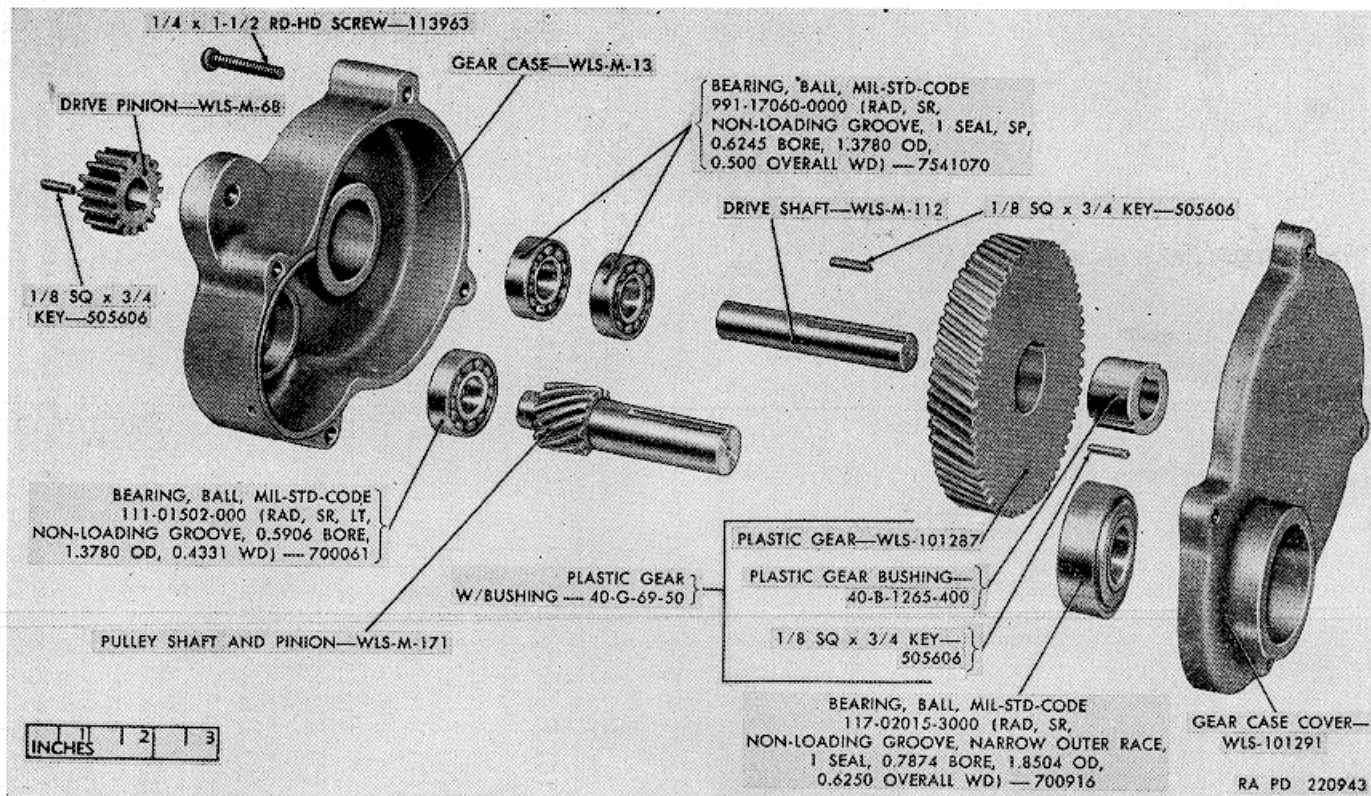
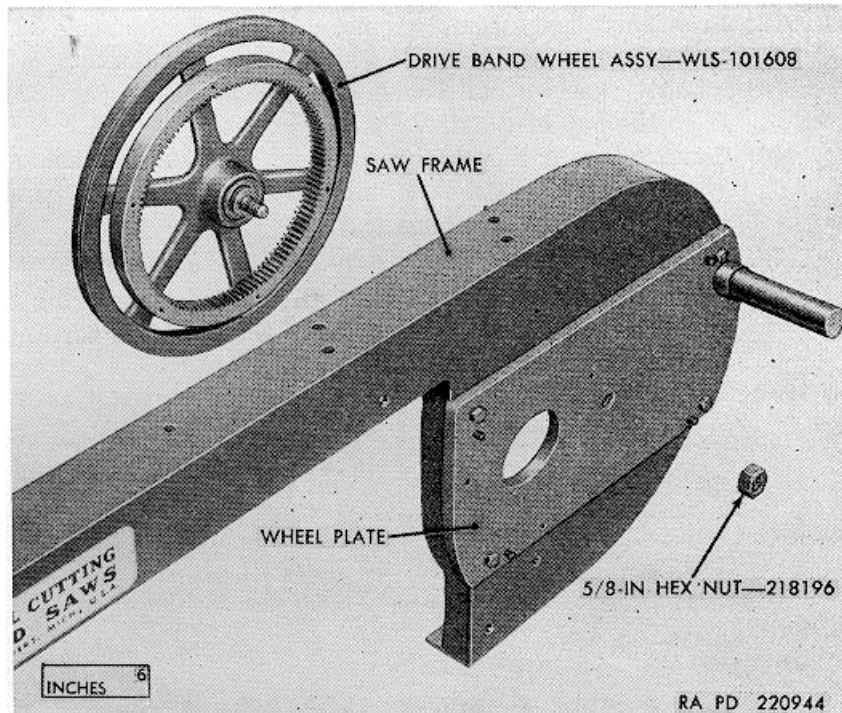

Figure 30. Gear case assembly-exploded view.
Figure 31. Drive band wheel assembly removed from saw frame.
- (4) With a gear puller, remove the drive pinion (fig. 30) and
- (5) Remove the four roundhead screws (fig. 30) from the underside of the gear case and remove the gear case cover.
- (6) Remove the ball bearing (fig. 30) from the cover.
- (7) Remove the plastic gear with bushing (fig. 30) from the drive shaft and disassemble the plastic gear bushing and the two square keys from the plastic gear.
- (8) Remove the pulley shaft and pinion and the ball bearing (fig. 30).
- (9) Remove the square key from the other end of the drive shaft (fig. 30) and press out the shaft from the ball bearings in the gear case.
- (10) Press out the two ball bearings (fig. 30) from the gear case.
- (1) Remove the hex nut which secures the drive band wheel assembly (fig. 31) to the wheel plate and remove the wheel assembly from the underside of the saw frame.
- (7) Assemble the drive band wheel assembly (fig. 31) to the saw frame by inserting the axle of the wheel assembly, from the underside of the saw frame, through the hole in the wheel plate and installing the 5/8-inch hex nut on the axle.
- (1) Place the gear case (fig. 30) on a bench, with the open side up, and press the two ball bearings (0.6245 bore) into the hole that goes through the case, being sure that the unshielded sides of both bearings face up.
- (2) Press the ball bearing (0.5906 bore) (fig. 30), into the case in the space provided and insert the short end of the pulley shaft and pinion into the bearing.
- (3) Assemble the plastic gear bushing (fig. 30) and two 1/8 square x 3/4 keys into the plastic gear.
- (4) Insert either end of the drive shaft (fig. 30) into the plastic gear bushing of the plastic gear with bushing until the end of the shaft is flush with bushing. Lock these two parts together with a 1/8 square x 3/4 key.
- (5) Lightly press the drive shaft through the ball bearings, assembled in (1) above, meshing the plastic gear with the pinion of the pulley shaft and pinion (fig. 30).
- (6) Press the ball bearing (0.7874 bore) (fig. 30) into the gear case cover, unshielded side out.
- (7) Assemble the gear case cover (fig. 30) with the gear case, being sure that the pulley shaft of the pulley shaft and pinion goes through the ball bearing in the cover.
- (8) Secure the cover to the case with four 1/4 x 1 1/2 roundhead screws (fig. 30).
- (9) Assemble the drive pinion (fig. 30) to the drive shaft, which extends through the underside of the gear case, and lock the pinion to the shaft with a 1/8 square x 3/4 key.
- (10) Insert the drive pinion (fig. 30) of the gear case assembly (fig. 29) through the large hole in the wheel plate. Secure the assembly to the wheel plate (fig. 31) with two 5/16-inch lockwashers and two 5/16 x 1 hex-head cap screws (fig. 29).
**The drive pinion (fig. 30) must mesh with the internal ring gear (fig. 32) when placed through the large hole in the wheel plate (fig. 31).**
- (13) Position the belt guard (fig. 28) over the pulley and install two 1/4 x 3/8 hex-head cap screws to secure the guard to the wheel plate (fig. 31).